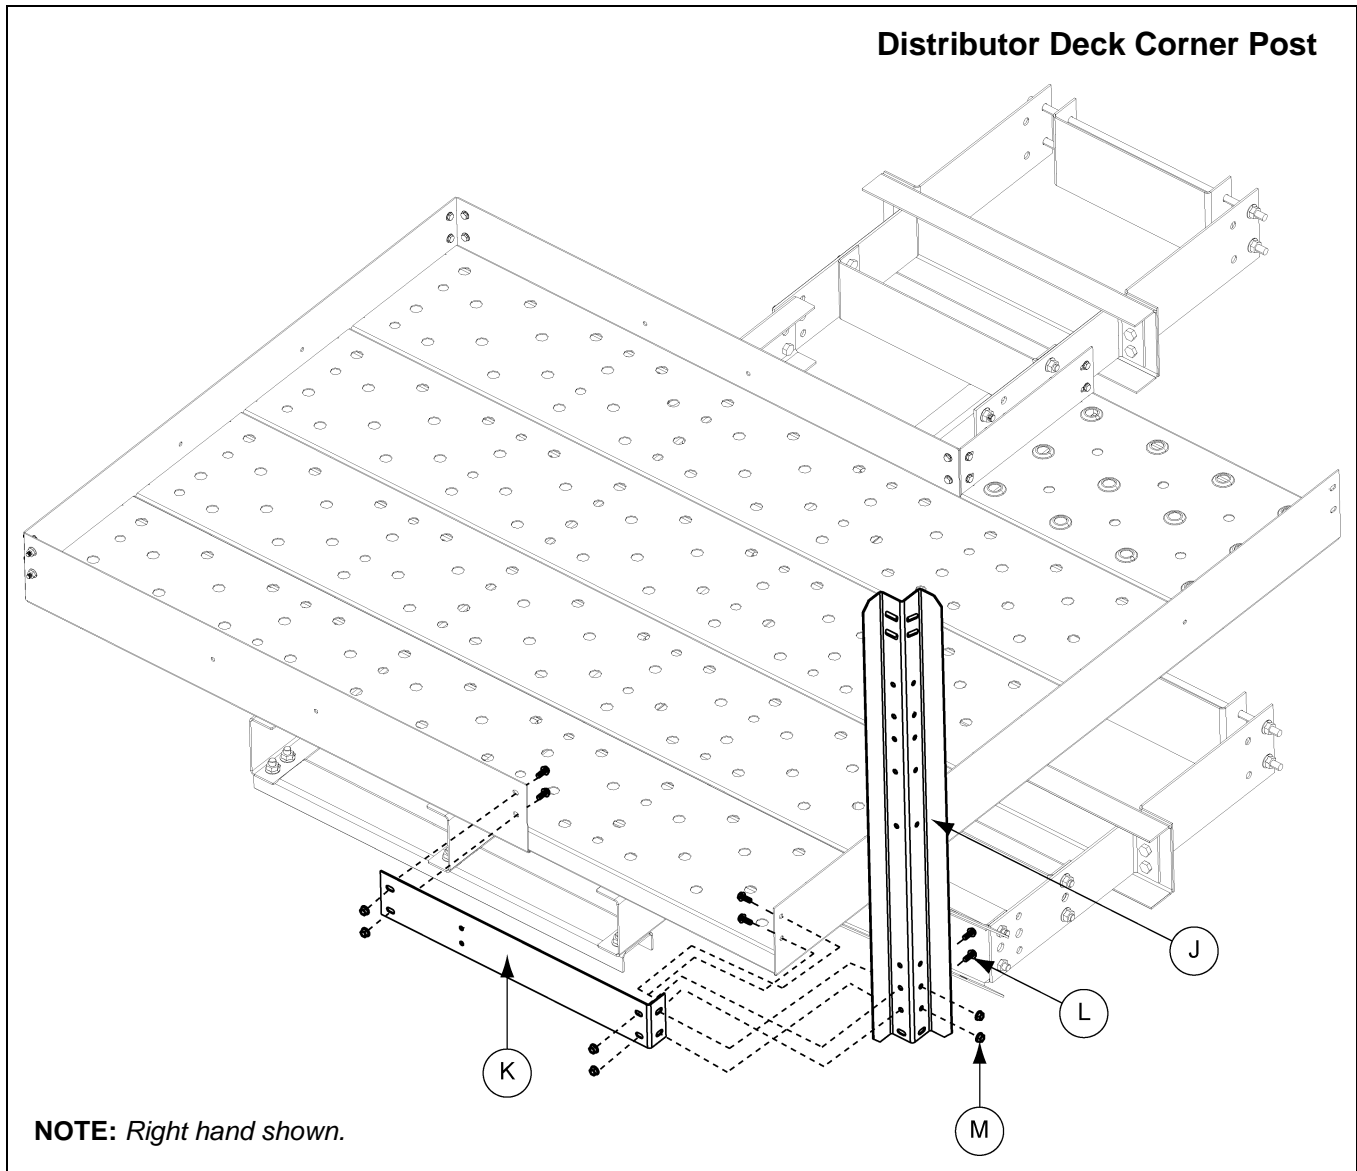

Figure 10K Distributor Platform Corner Post
5. Install the corner “W” post at the same time as the toe board filler plate. Attach toe board filler plate to the decking toe boards located across from the entrance. Attach the flat end first using two (2) 5/16" x 3/4" flange bolts and nuts. Then line up the holes of the toe board filler plate with the decking toe board, while also aligning the holes of the “W” post on the corner. Fasten all three (3) together with four (4) 5/16" x 3/4" flange bolts and nuts. *(See Figure 10K on Page 81.)*